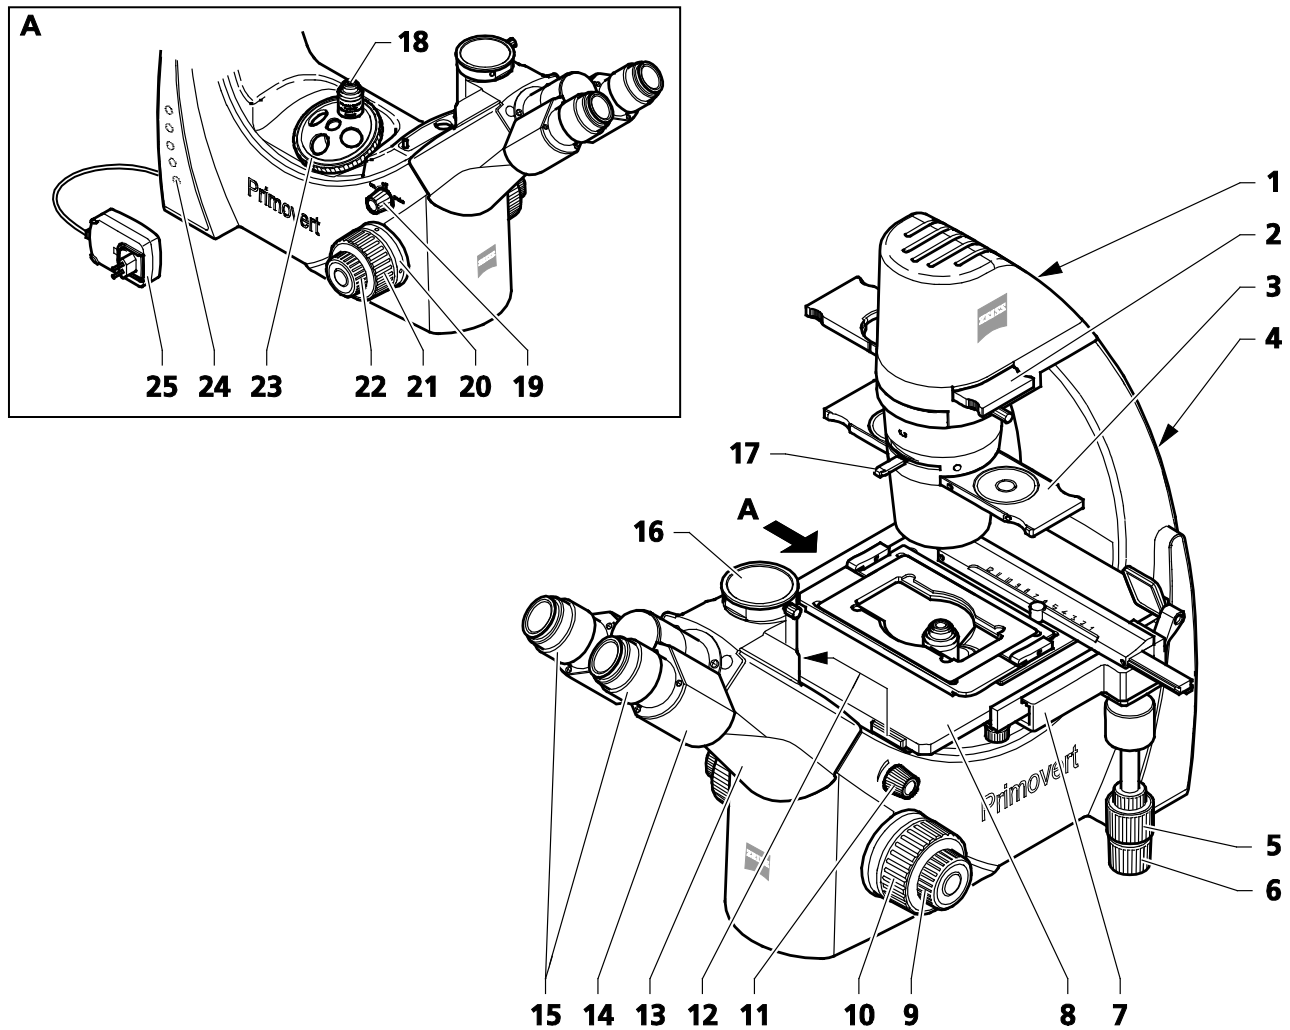

Fig. 11 Operational elements of Primovert with binocular tube, ergotube and phototube
Legend to Fig. 11:
- Adjust the desired illumination intensity using the rotary knob (Fig. 11/11).
The selected intensity is indicated in five steps by the blue light-emitting diodes (Fig. 11/24) arranged on both sides of the stand.
- The torque of the coarse focusing drive is factory-adjusted and can be readjusted if required. For this purpose, insert a screwdriver into one of the four radially arranged holes of the ring (Fig. 11/20), hold the coarse focusing knob (Fig. 11/21) in position and turn the ring with the screwdriver to the right or left in order to adjust the torque of the coarse drive as desired.